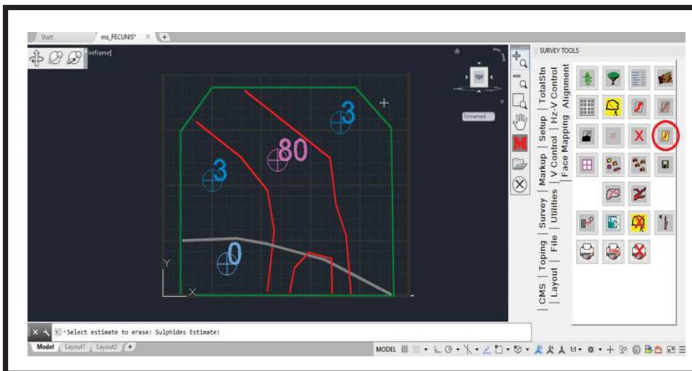

fig.1
1. Geo-Mapping using the Leica Total Station laser traces the geological structures and ore contacts directly onto the MOSS tablet in georeferenced XYZ coordinates for any face and heading. (*fig.1*)